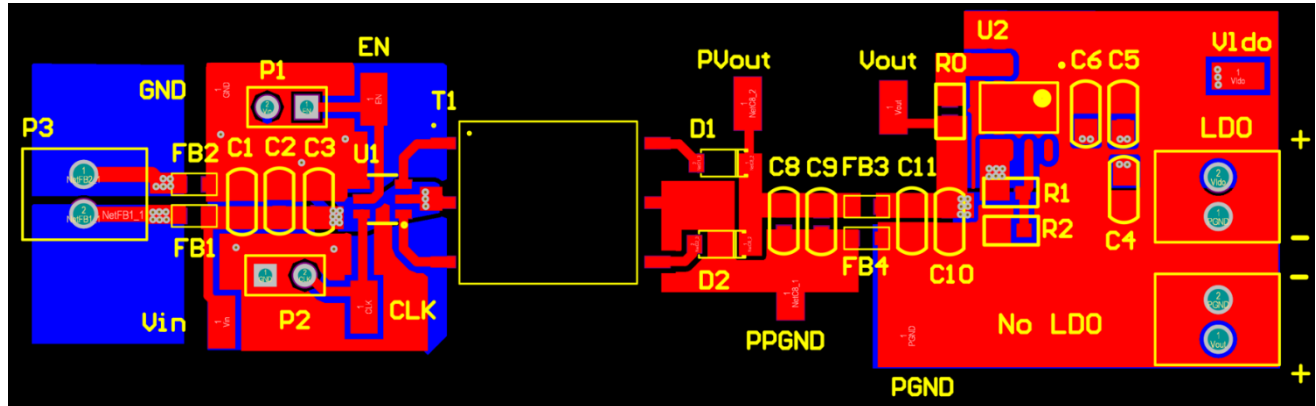

Figure 12.1 Layout Example of 2-Layer Board (NSIP6055x)
- Refer to Figure 12.1 for PCB layout. The GND pin of the device should be connected to the PCB GND plane using two vias to achieve minimal inductance.